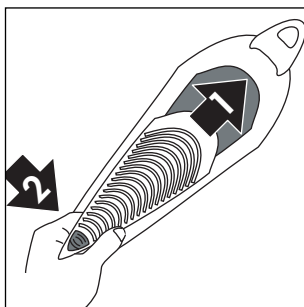

Fig. 19
- 4) Replace the grill, first positioning the top part; then rest the bottom part and press the slide downwards until hearing the click (Fig. 19).